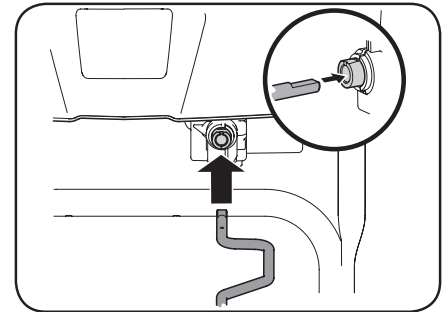

Figure 2-42
5. Insert other end of chute control rod into coupler below handle panel. Make sure to line up flat end of rod and flat end of coupler. You may need to rotate rod around until these two surfaces line up. See Figure 2-42 inset.